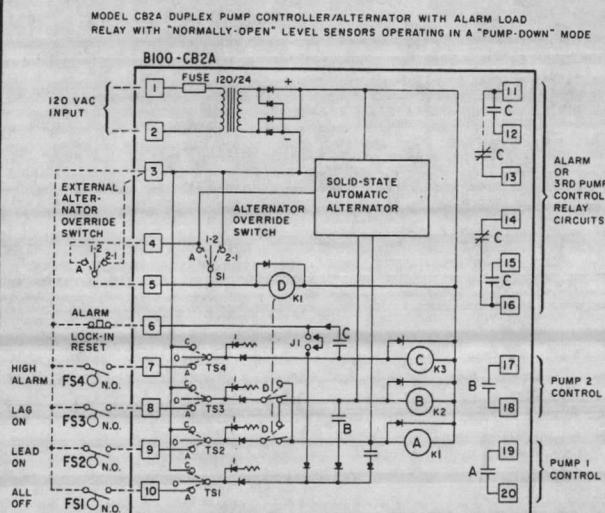

Fig 2
- (a) Pump-down; Use N.O. sensors (see Fig 2)
2. Latch-in with external reset (see Fig 2)